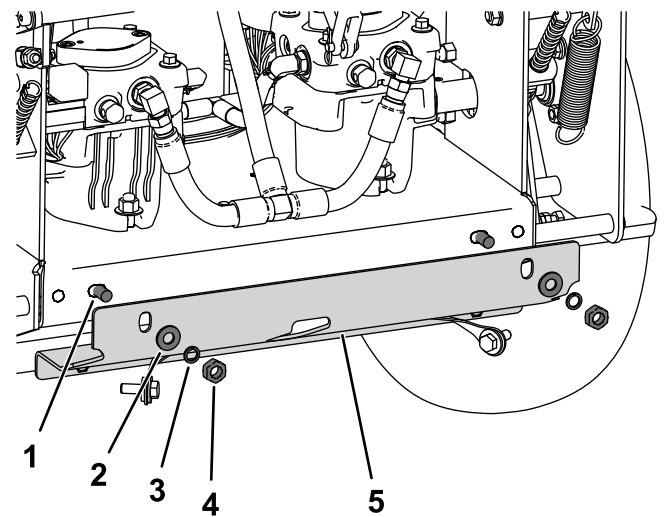

Figure 8
6. Center the drive pulley guard on the rear of the engine frame and install it with 2 carriage bolts (M10 x 25 mm), heavy washers (M10), spring washers, and nuts (M10) as shown in Figure 8.